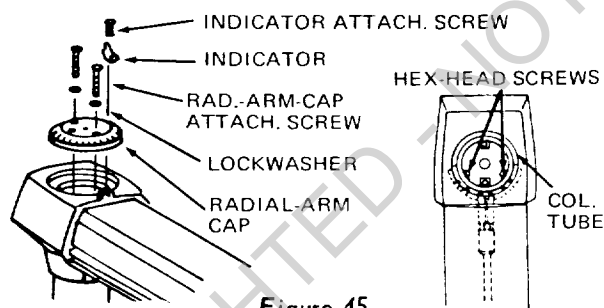
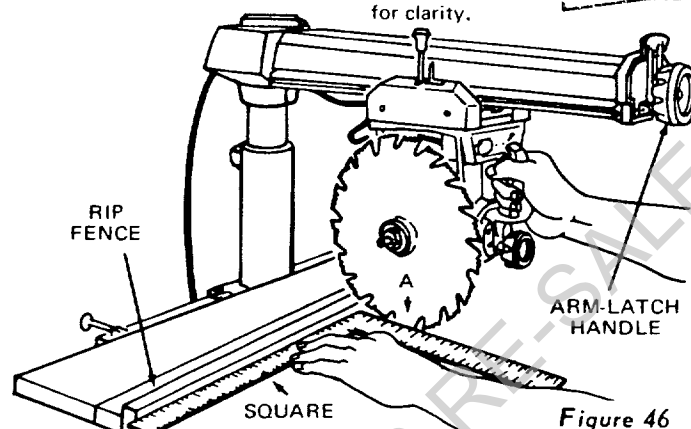

Figure 45
Figure 46
i. Adjusting the Arm Latch to Correct Crosscut Travel Maladjustment (Figures 45 and 46).
- (1) Remove the indicator attaching screw and radial-arm indicator. (See figure 45.)
- (2) Remove two 1/4-28x1-inch screws to free the radial-arm cap, and lift out the cap.
- (3) Rotate the arm-latch handle (figure 46) one-quarter turn counterclockwise, but do not pull the lever out.
- (4) Loosen (do not remove) two 3/8-16x3/4-inch hex-head screws (figure 45) located inside the column tube.
- (5) Move radial arm slightly in the proper direction to make a saw tooth (A, figure 46) follow the edge of a square, when the carriage is traveled back and forth along the radial arm.
- (6) Retighten the hex-head screws inside of the radial arm, then tighten the arm-latch handle.
- (7) Recheck travel of blade tooth A with the square (figure 46), to make sure that tightening the screws did not affect the adjustment.
- (8) After the crosscut has been accurately squared, reinstall the radial-arm cap with the two 1/4-28x1-inch screws and 1/4-inch lockwashers. Reinstall the radial-arm indicator with its attaching screw tight.
- (9) Set the radial-arm scale to 0°, and tighten the attaching screws securely.